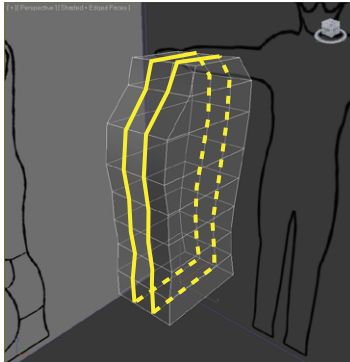

FIGURE 7.6 Create two new edge loops using SwiftLoop.
7. Select the Graphite Modeling Tools tab > Edit panel and click SwiftLoop. Switch to Edge mode, and then use the SwiftLoop tool to create two new edge loops that run vertically from the front of the model to the back, as shown in Figure 7.6.